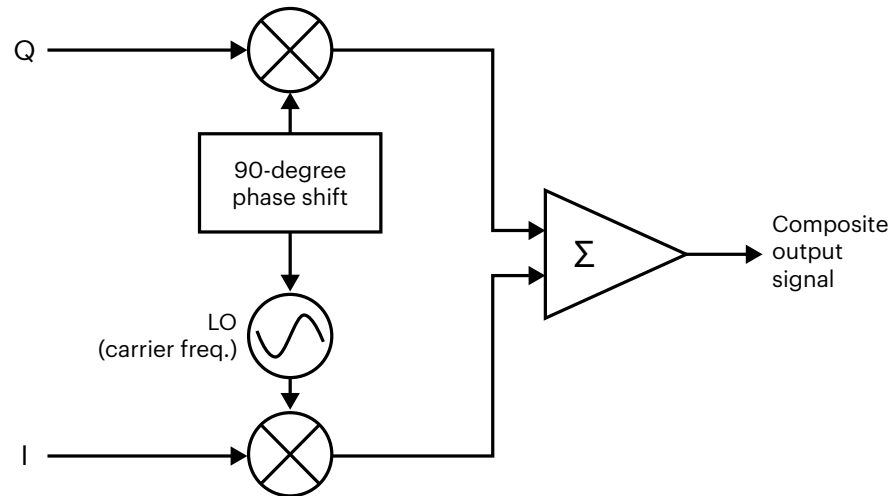

Figure 5.2. Baseband IQ modulation
In a digital transmitter, I and Q signals mix with the same local oscillator (LO) but with a 90-degree phase shifter placed in one of the LO paths, as shown in Figure 5.2. This 90-degree phase shift makes the I and Q signals orthogonal to each other so that they do not interfere with each other.